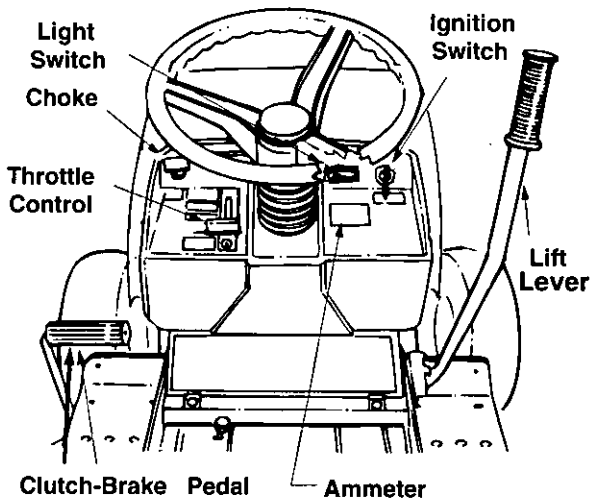

Figure 10
The ignition switch is located on the dashboard. Turn the key to the START position to start the engine. When the engine is running, leave the key in the ON position. To stop the engine, turn the key to the OFF position. See Figure 10.
The throttle control is located on the dashboard and is used to regulate the engine speed. To get maximum efficiency from cutting, the throttle should be in the fast position when operating the mower. See Figure 10.
The choke control is located on the left side of the dashboard and is operated manually. Details for the choke operation are covered in the separate engine manual packed with your unit. See Figure 10.
The head lamps are operated by pushing the light switch located on the dashboard. The head lamps will only operate when engine is running. See Figure 10.
The ammeter registers the rate of battery charge or discharge. The ammeter will register on the discharging side with starting the engine. It should register on the opposite side (charging) when the engine is running in the fast position until the battery is completely charged. With a fully charged battery or with the engine idling, the ammeter will not show a charge. See Figure 10.
The clutch-brake pedal is located on the left side of the tractor. See Figure 10. Depressing pedal returns the drive unit to neutral (N) and applies the brake.